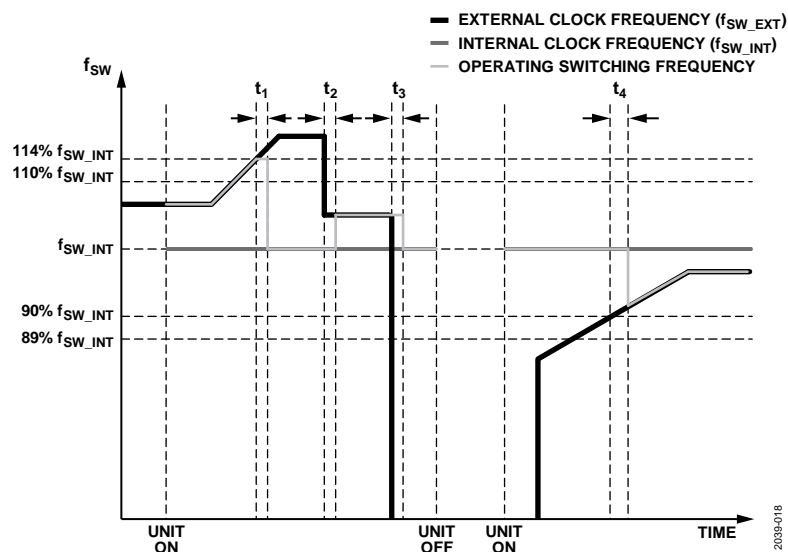

Figure 15. Synchronization Operation
2. If all periods of the most recent 64 consecutive cycles of the external clocks fall within 90% to 110% of the internal switching clock period, the ADP1050 uses the latest current cycle as the synchronization reference, and the period of the external clock is identified. This interval is t_2 or t_4 , as shown in Figure 15. Otherwise, the ADP1050 discards this cycle and looks for the next cycle (frequency capture mode).
This interval is t_1 or t_3 , as shown in Figure 15.
Figure 15 shows the synchronization operation diagram. The internal frequency, f_{SW_INT} , is the internal free-running frequency of the ADP1050. Before the synchronization is locked, the ADP1050 runs at f_{SW_INT} . The external frequency, f_{SW_EXT} , is the frequency of the external clock to which the ADP1050 must synchronize. After synchronization is locked, the ADP1050 runs at f_{SW_EXT} .